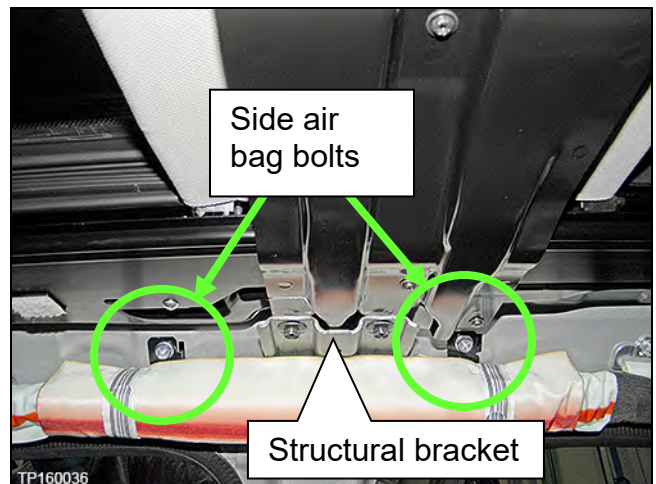

Figure 64
3. Remove two bolts per side air bag (4 total) that attach the left and right side airbags to the roof rail and then allow them to hang free (Figure 64).